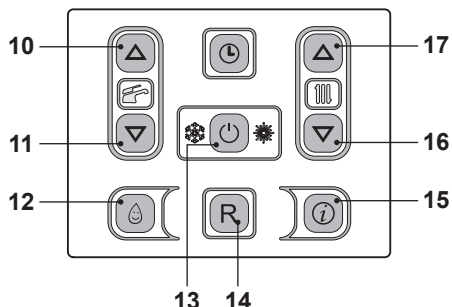

Fig. 2.11
However, if the ambient temperature is not comfortable, the flow temperature of the heating plant can be increased or reduced by $\pm 15^{\circ}\text{C}$ by acting on keys 16 (reduce) and 17 (increase) (Fig. 2.11).
The heating temperature of the zone valve controlled by a thermostat is configured on the boiler control panel using keys 16 and 17 Fig. 2.11.
Enter "programming mode" by holding down keys 17 and 18 for 5 seconds (Fig. 2.11).
Press keys 10 or 11 (Fig. 2.11) to select individual days 1, 2, 3, 4, 5, 6, 7, or if you want to select a group of days, hold down key 10 until groups (1-5) (1-6) (1-7) (6-7) are displayed (flashing), then confirm by pressing key 13.